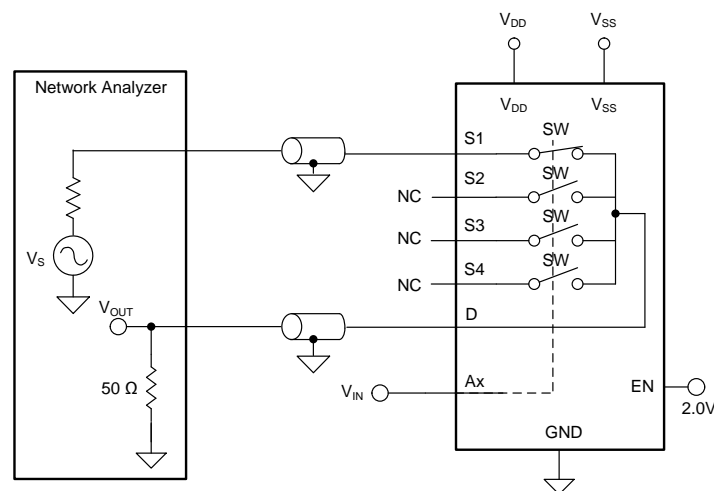

图 26. Bandwidth Measurement Setup
Bandwidth is defined as the range of frequencies that are attenuated by  $< 3$  dB when the input is applied to the source pin (Sx) of an on-channel, and the output is measured at the drain pin (D) of the TMUX6104. 图 26 shows the setup used to measure bandwidth of the mux. Use 公式 4 to compute the attenuation.